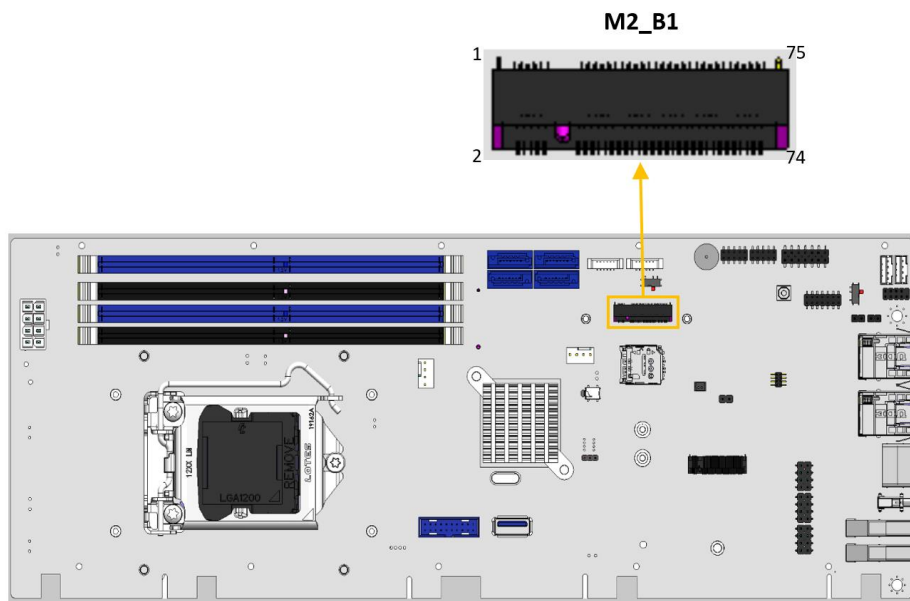

Figure 3-15: M.2 B-key (3042/3052/2242/2280) Slot Location
- CN Location:** See Figure 3-15